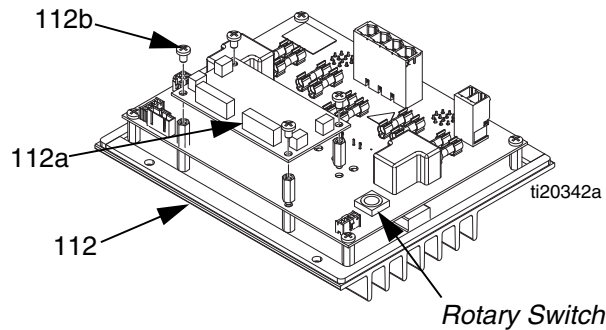

FIG. 43
2. Remove electrical enclosure front access door (10).
3. Disconnect heated hose electrical connectors from MZLP (112).
4. Note location of each cable, then unplug all cables from the MZLP (112) that will be replaced. See FIG. 43.
1. Set MZLP rotary switch to "1" on MZLP with daughter card. Set MZLP rotary switch to "2" on MZLP without daughter card. See FIG. 43 for rotary switch location.
2. Use four screws (114) to install MZLP (112) to electrical enclosure (1).
3. Reconnect cables to MZLP (112).
3. Note location of each cable then unplug all cables from MZLP daughter card (112a). See FIG. 43.
- Remove four mounting screws (112b) from daughter card (112a) and set aside. See FIG. 43.